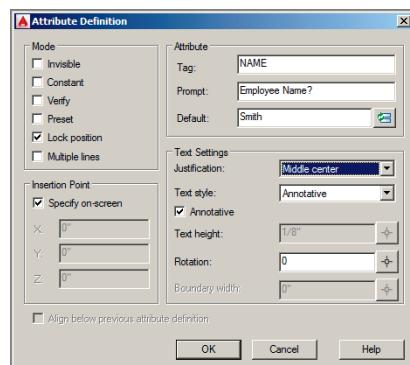

FIGURE 15.9 Specifying the properties of an attribute definition
7. Expand the Block panel, and click the Define Attributes tool to open the Attribute Definition dialog box. Type **NAME** as the tag, **Employee Name?** as the prompt, and **Smith** as the default. Set Justification to Middle Center and Text Style to Annotative (see Figure 15.9).